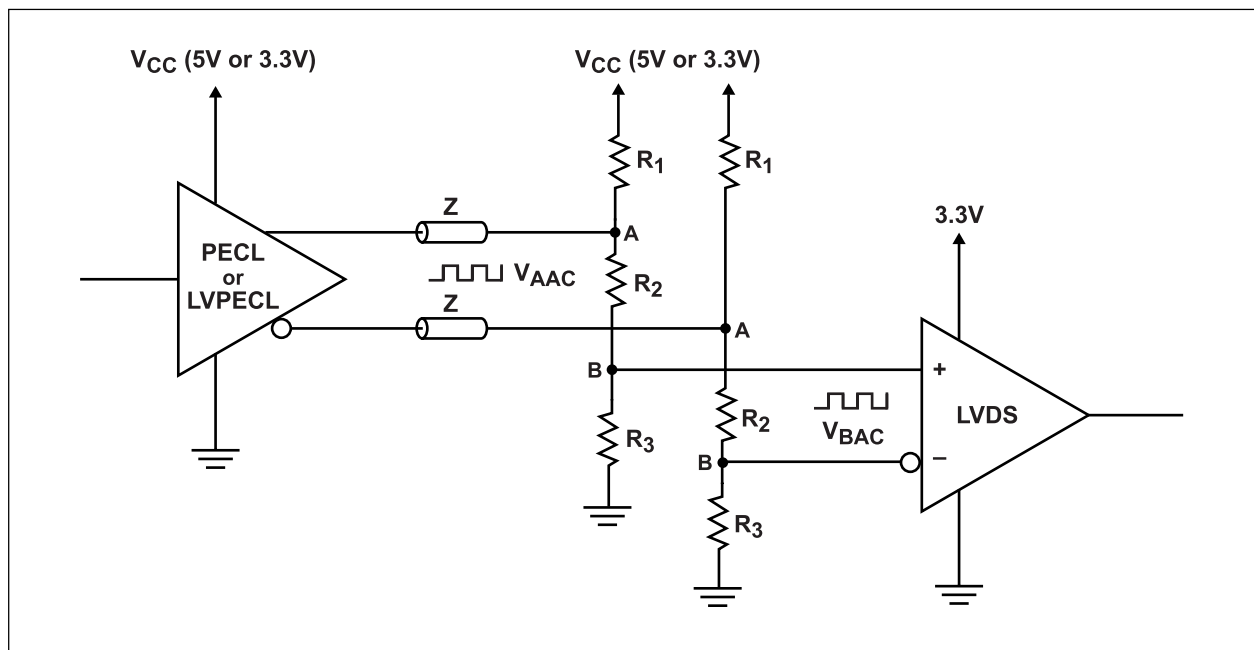

Figure1. Resistor Network Interface
The Thevenin parallel resistor network should be placed near the LVDS receiver to minimize signal reflections, (see Figure 1). The parallel equivalent impedance of the resistor network is calculated to match the circuit line's characteristic impedance (Z).